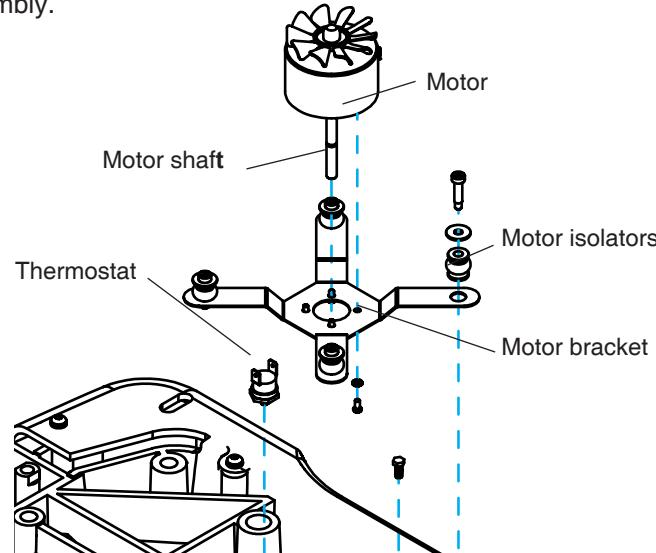

Figure 5-5
5.4.2 Incubator fan/motor/optical sensor (Figure 5-5 and 5-6)